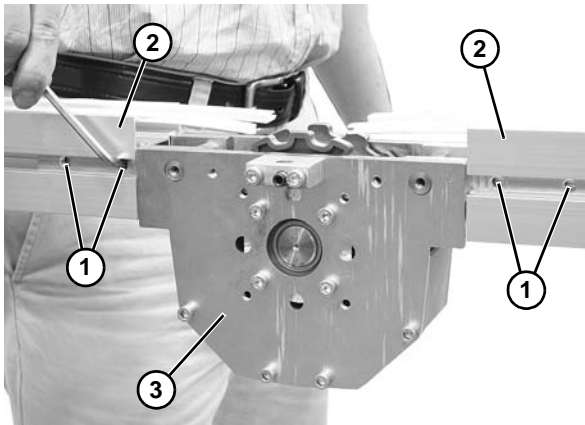

Figure 143
- Loosen set screws (Figure 143, item 1) on both sides of conveyor.
- Separate conveyor halves (Figure 143, item 2) and remove drive assembly (Figure 143, item 3).